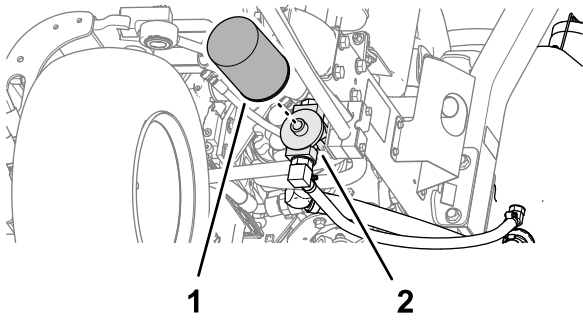

Figure 91
2. Clean around the filter mounting area. Place a drain pan under the filter (Figure 91) and remove the filter.